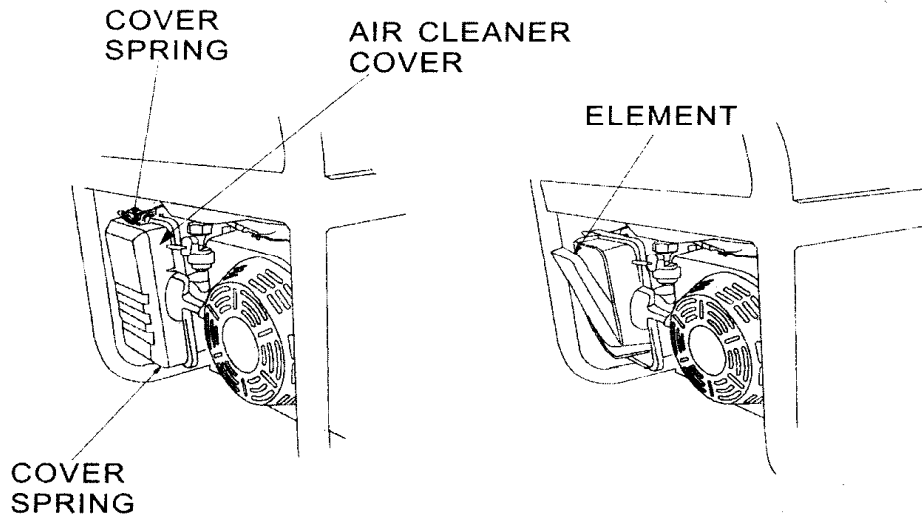

Figure 18- Removing the air cleaner casing.
1. Unhinge the clasps at the top and bottom of the air cleaner cover (see figure 18).